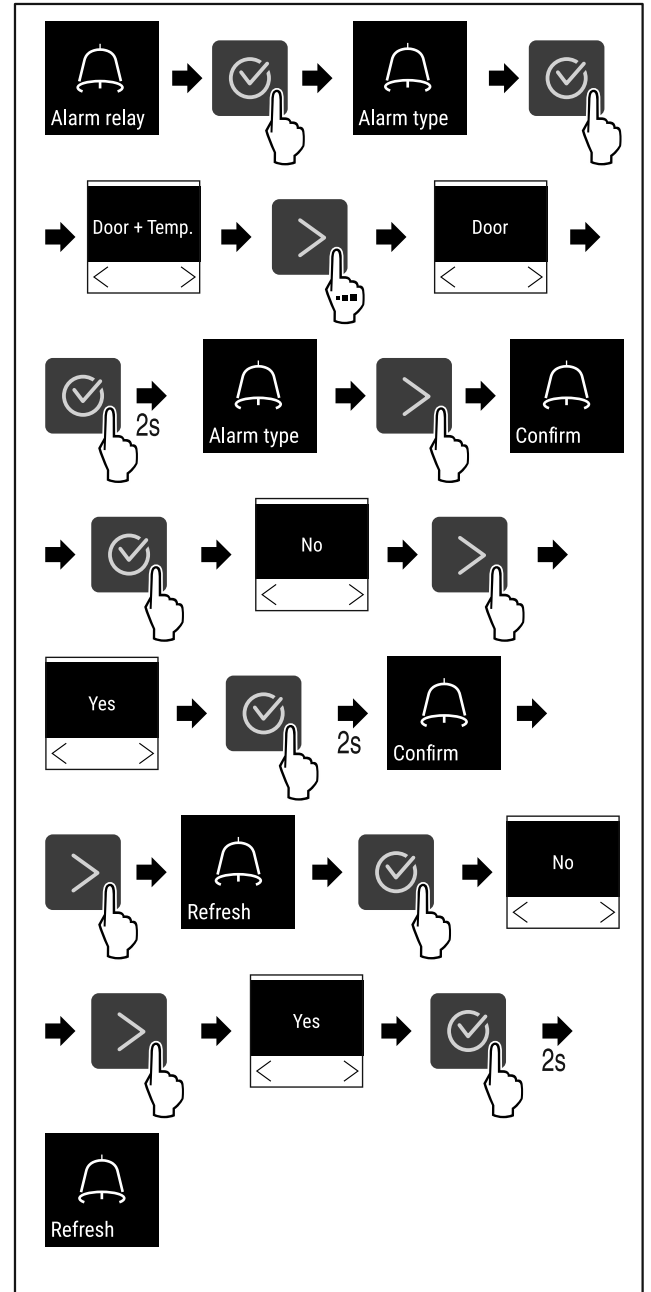

Fig. 125
- ▶ Complete steps (see Fig. 125) .